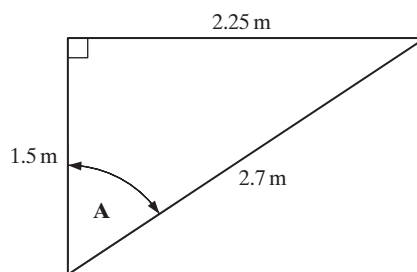

Figure 2.56
7. Given the lengths of each of the sides of the right triangle shown in Figure 2.56, create a VI that calculates the sine, cosine, and tangent of angle A.